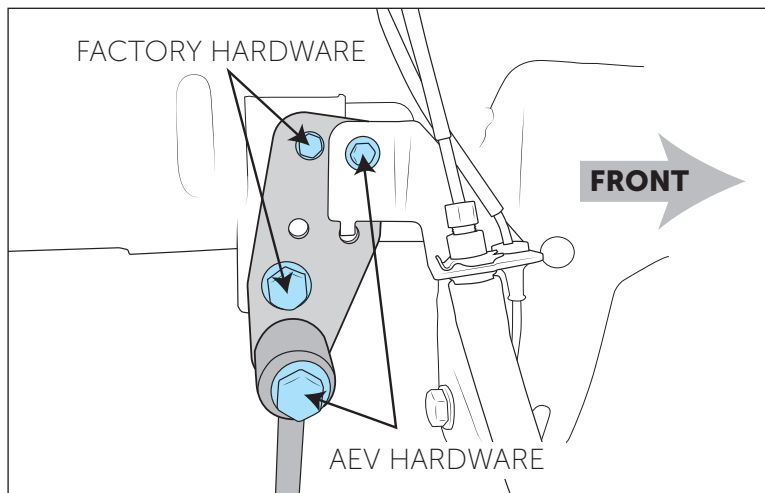

Figure 14
- A. Install end link/brake line brackets on vehicle as shown (fig. 14) using factory brakeline bracket hardware and factory upper end link hardware. Torque M12 end link bolt to 81 lb-ft and M6 bolt to 15 lb-ft.
- B. Install brake line bracket to forward upper set of holes (fig. 14). Alignment tab will go into lower hole and provided M6 bolt will go through both brackets. Nut can be installed to rear of brackets using box end M10 wrench. Torque to 15 lb-ft.
- C. Install AEV end links to lower holes in the brackets using the provided M12 x 60mm flange bolts and nuts (fig. 14). Install lower studs to axle mounts using provided M12 nuts (factory end link nuts are different thread pitch). Torque all end link hardware to 81 ft-lb.